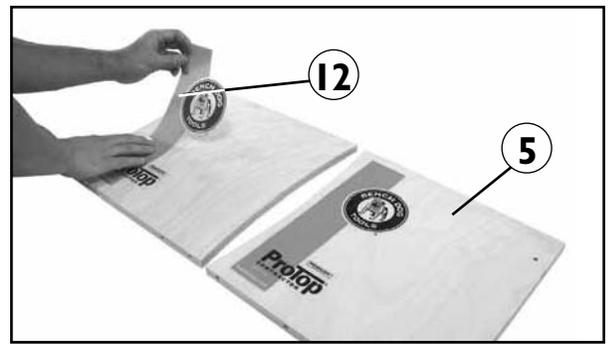

Fig. 2
2. Attach the two decals (12) to the side panels. The decals go on the outside of the left and right side panels (4 and 5). The right side panel decal is positioned near the front curved edge, as shown in **Fig 2**. In this photo the person is installing the decal on the left side panel, about two inches from the back edge. If you find it easier, attach the decals **AFTER** your router table is fully assembled.